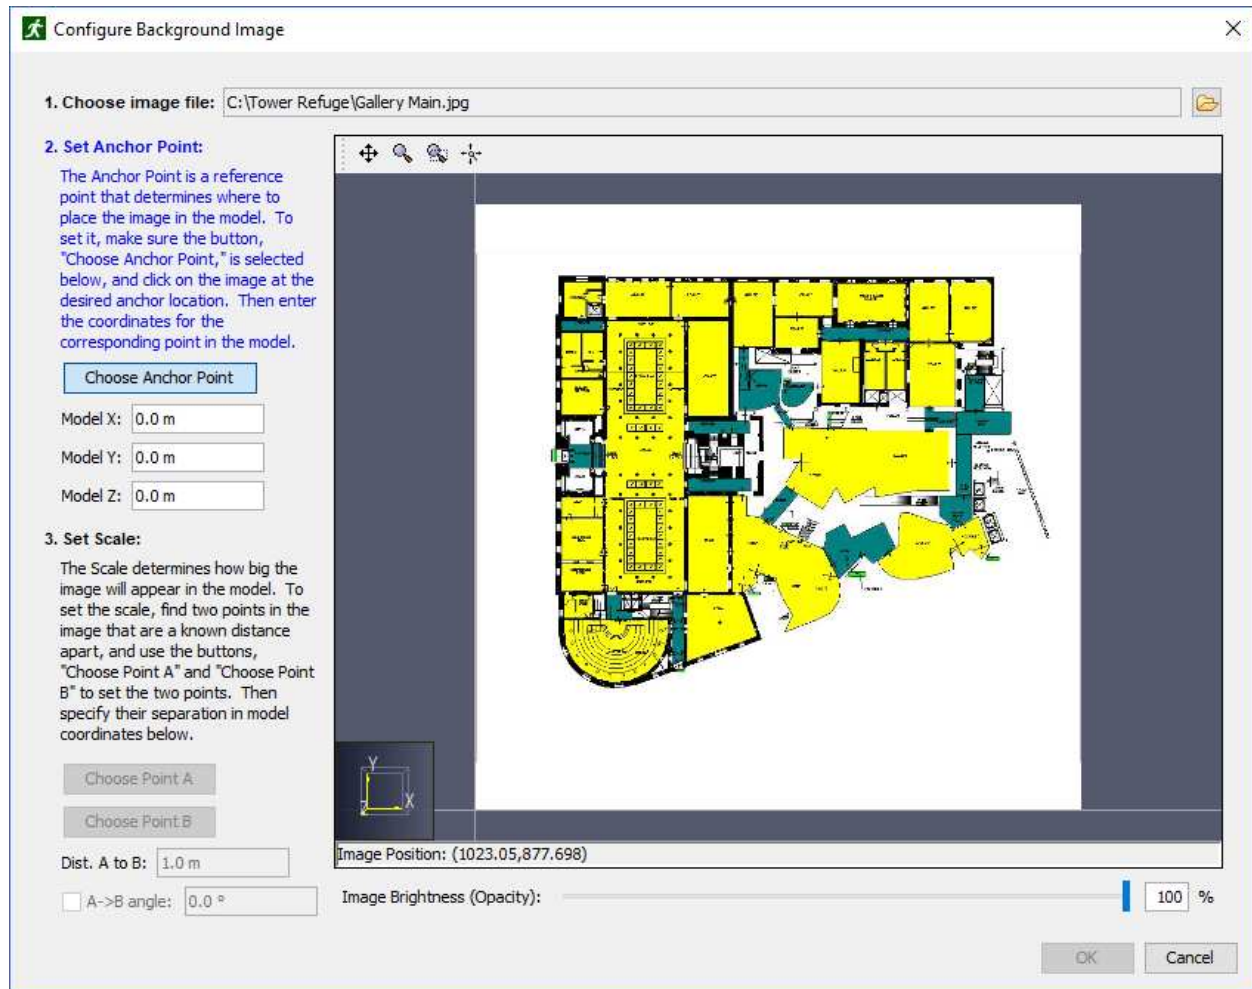

Figure 65. Set the anchor point
1. When clicked, a dialog will appear prompting for an image file. The following image formats are currently supported: BMP, GIF, JPG, PNG, and TGA. After a file is selected, a new dialog will appear as shown in Figure 65. This dialog allows properties of the image to be specified so that the proper scaling, rotation, and offset can be applied.